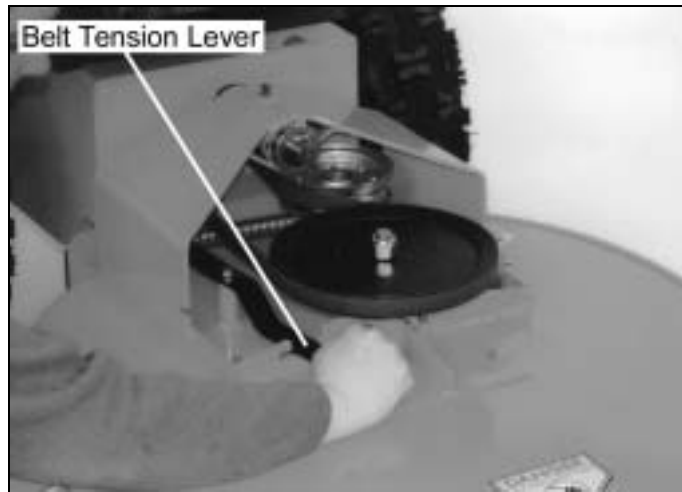

Figure 22
2. Release the belt tension lever (*Figure 22*).